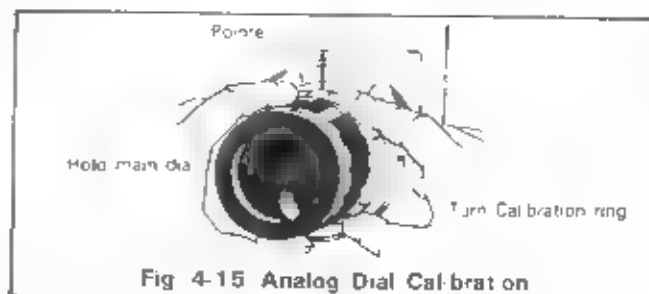

Fig. 4-15 Analog Dial Calibration
4.10 ANALOG DIAL CALIBRATION (Fig. 4-15)